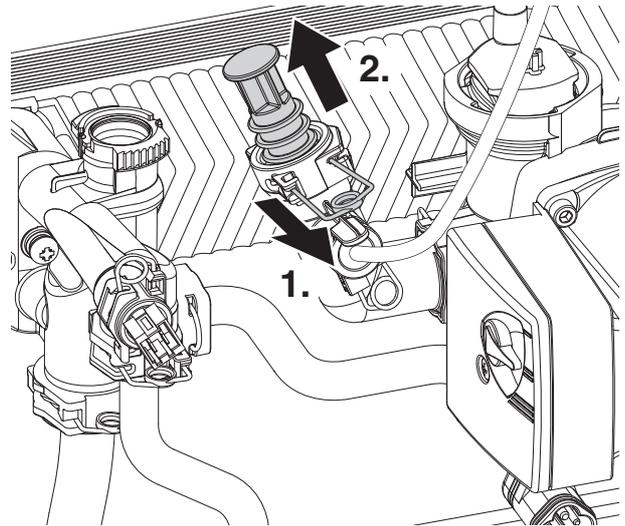

Fig. 33 Blanking plug
1. Refer to figure 33, release the retaining clip.